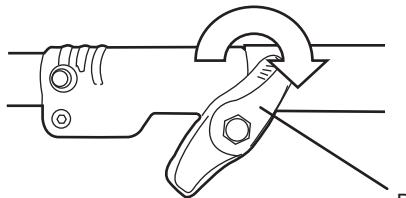

Fig. 3
- d). Secure the connection by tightening the locking knob(B) clockwise. (See Fig. 3)